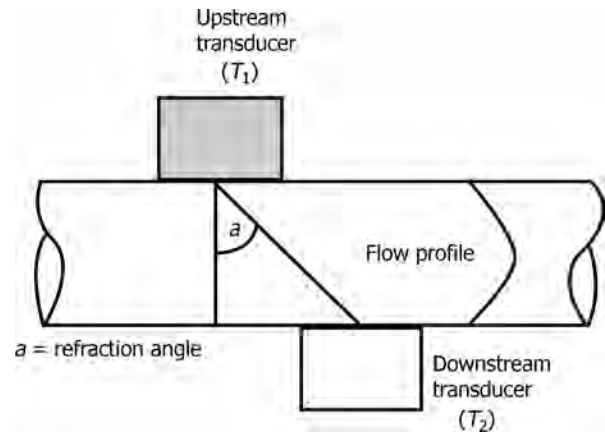

FIGURE 4.24 Transit time flow meter.
- Figure 4.24 illustrates transit time flow meter.